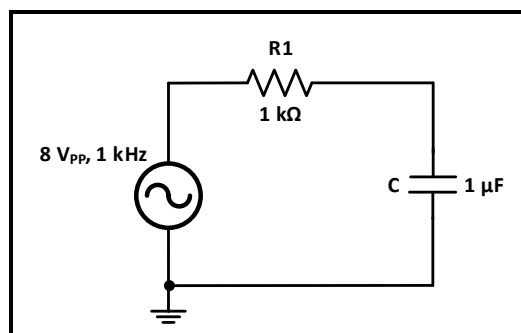

Figure 1.15
4. Connect the circuit shown in Figure 1.15, set the input voltage to sinusoidal voltage at 8 V_{PP} and 1 kHz (you will need to connect channel 1 of the oscilloscope to the input voltage).